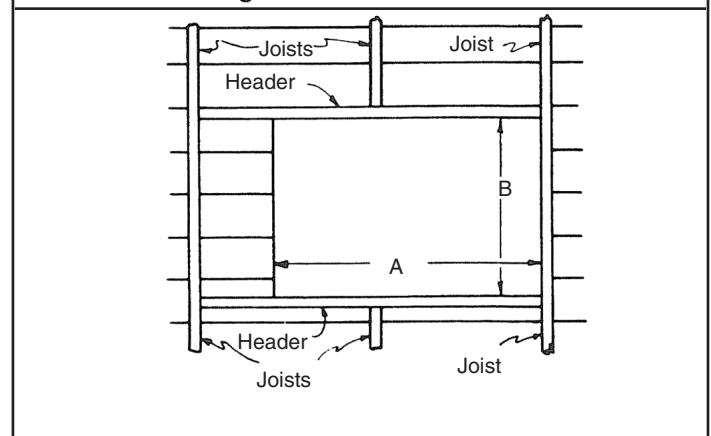

Figure 2
3. The floor opening is shown in Figure 2. If the joists are cut, headers should be provided on either side of the opening to support the base unit. Check local building codes for requirements on floor loading and support.